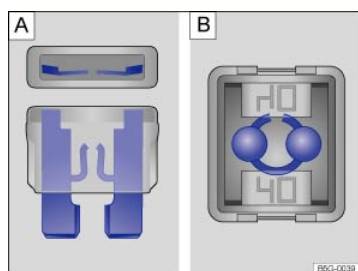

Fig. 201 Blown fuse: : Blade fuse. : Cartridge fuse.
- A blown *blade fuse* (ATO®, MINI®) has metal strips that have burned through, which you can see through the transparent housing from above and from the side ⇒ Fig. 201 A.
- A blown *cartridge fuse* (JCASE®) has metal strips that have burned through, which you can see through the transparent housing from above ⇒ Fig. 201 B.